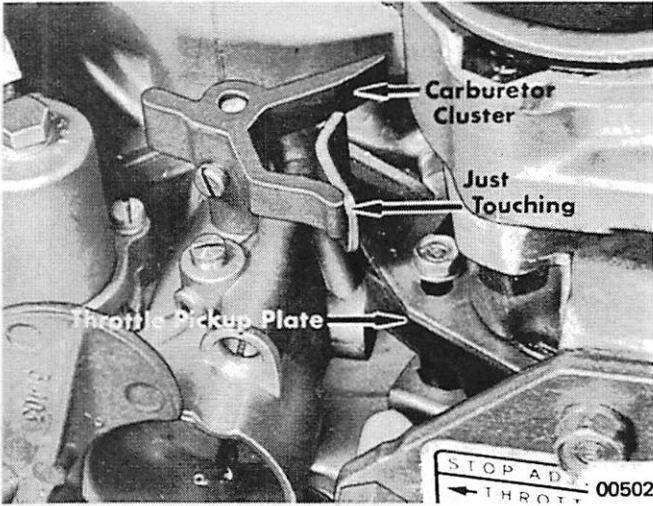

Figure 8. Throttle Pickup Tab Adjustment
- a. Merc 1100SS-950SS and 650SS only: Using timing lite, advance the throttle until timing mark (3 dots) on flywheel aligns with throttle pickup line on timing decal. At this point, carburetor pickup should just touch carburetor cluster (.000" to .005" [.127mm] clearance). (Figure 8)
- b. Merc 500SS only: Using timing lite, advance throttle until timing marks (2 dots) on flywheel align with cylinder No. 1 TDC line on timing decal. At this point, carburetor pickup should just touch carburetor cluster (.000" to .005" [.127mm] clearance). (Figure 8)
- c. Loosen screws, which hold throttle pickup plate, and adjust if necessary. (Figure 8)